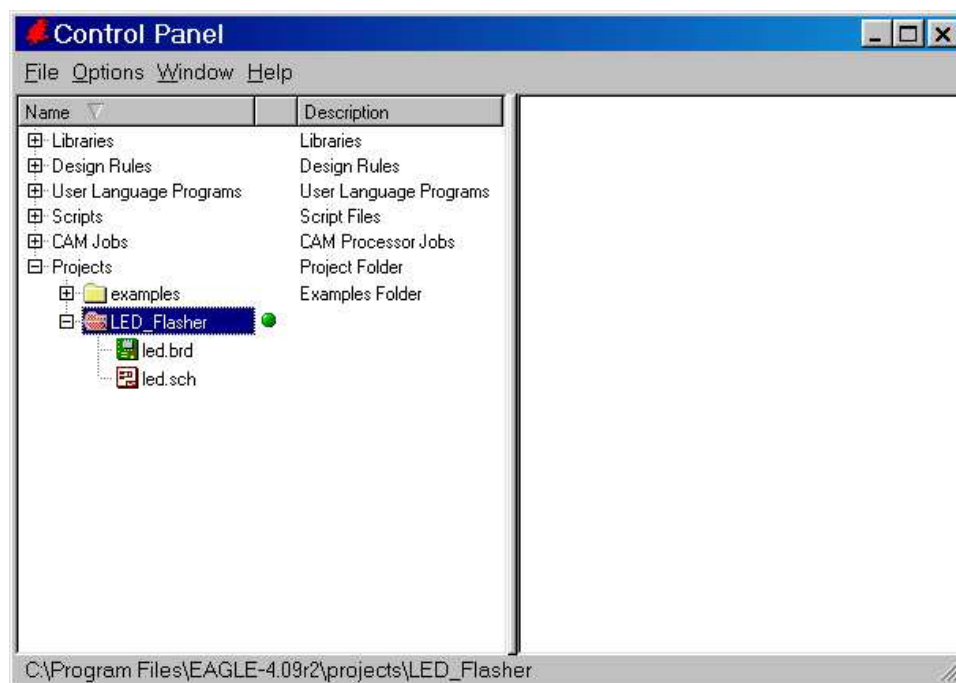

Figure 1.1: Successful project file creation.
1. Select the LED_Flasher Project Folder by left clicking on the dot to the right of the project name. The dot should light up **green** when the current project is selected, see Figure 1.1.
Finally, you have to create a new PCB document within the project named **led.brd**. This file will be the board layout. Figure 1.1 below is what the eagle control panel window should look like when these steps are fully completed. The project contains all necessary files and is ready to start adding parts to create the electrical schematic.